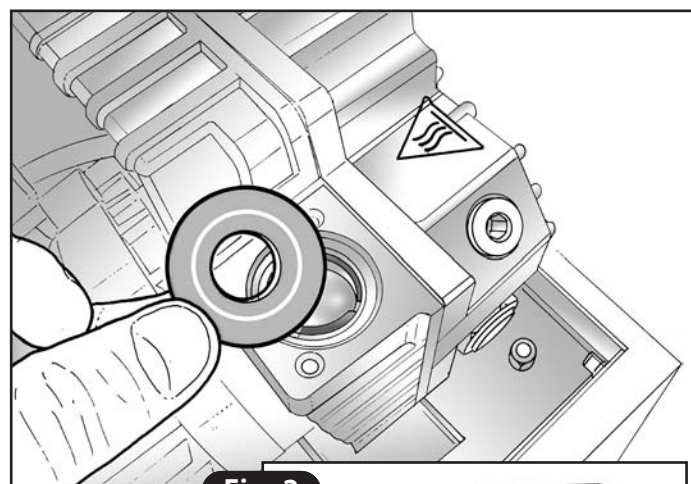

Fig. 2
- 4) Remove first the rubber shutter and then the steel one. Check the condition of the accessible intake section and clean it if necessary with a cloth soaked in alcohol (**Fig. 2**).